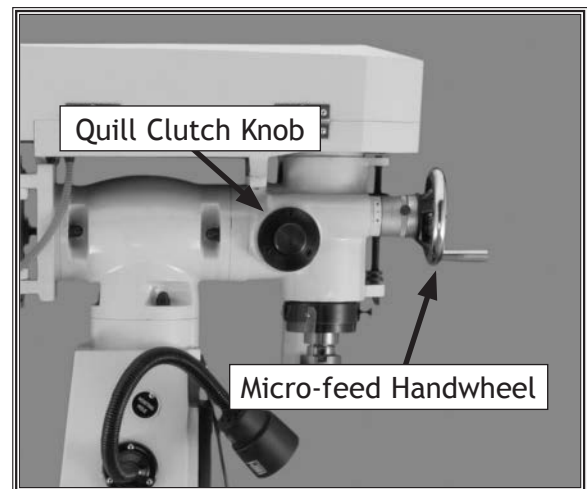

Figure 21. Micro-feed controls.
The micro-feed handwheel is used to accurately control the quill depth (see **Figure 21**).
3. Turn the micro-feed handwheel (see **Figure 21**) clockwise to feed the quill down or counterclockwise to feed the quill up.